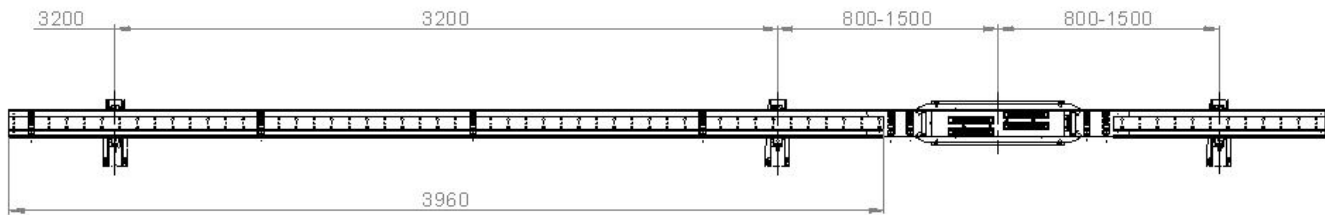
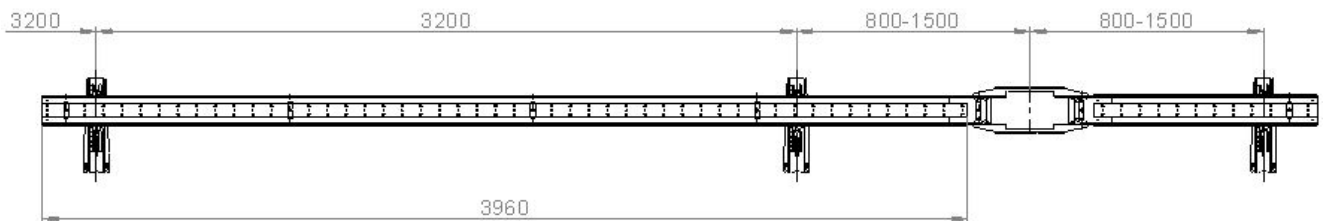
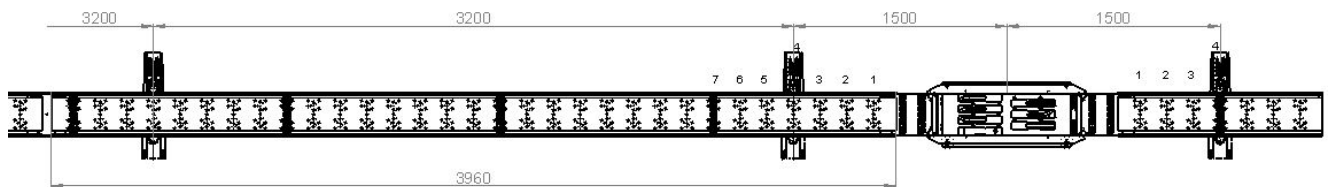

Fig. 12: ProShell 128 distances with Conductor Rail System 0812
Fig. 13: ProShell 128 distances with Conductor Rail System 0831
Fig. 14: ProShell 206 distances with Conductor Rail System 0812
1. The installation begins with the arrangement of the consoles, starting from the line feed. On both sides of the center from the fastening frame for the line feed, a console must be installed at a distance of 800 mm - 1500 mm or 1500 mm (see Fig. 12 up to Fig. 13 for ProShell 128, see Fig. 14 for ProShell 206).
2. Select the distance between the consoles according to the support profile system variant and conductor rail system (see Fig. 12 to Fig. 14), but independently of the support profile connectors.